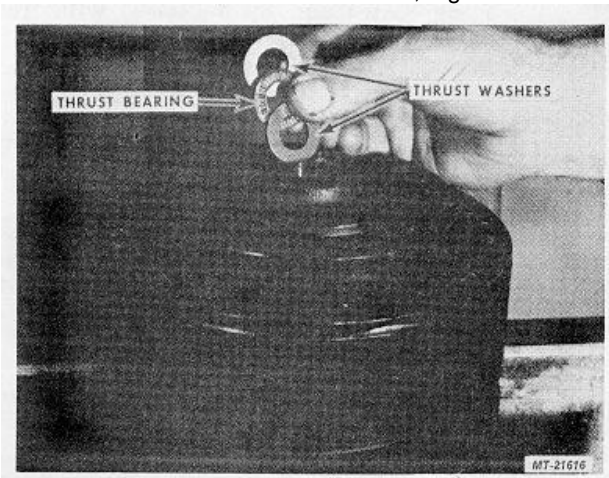

Fig. 86
49. Install one Thrust Washer, then Thrust Bearing and a second Thrust Washer, Fig. 86.